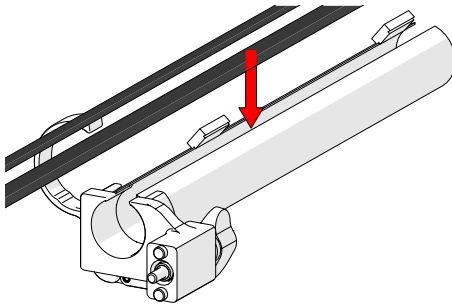

Fig. 203 - Insert cables and hoses
1. Open the cable management. Begin at the clamp end and start placing the cabling in the tube (*Fig. 203*).